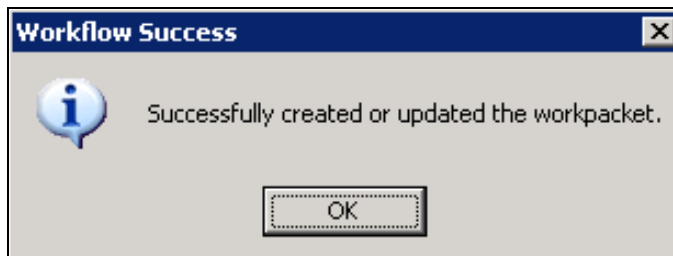

Figure 7-75: Workflow Success Message
18. Click the OK button. The Workflow Success dialog box is displayed (Figure 7-75).